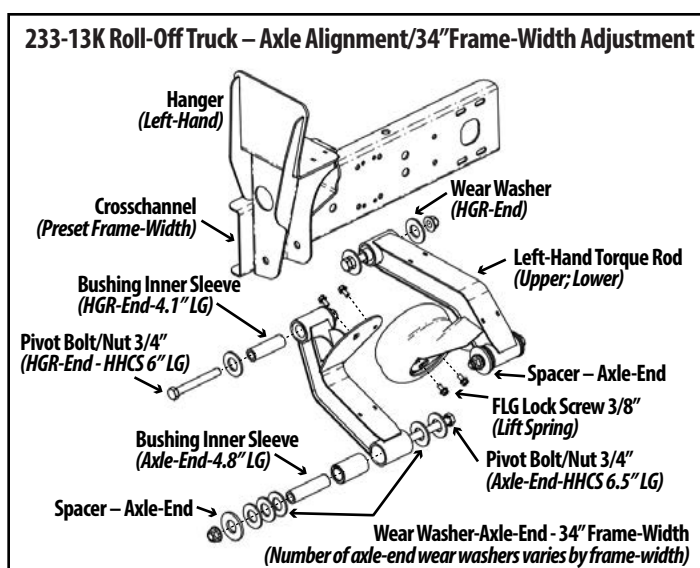

Figure 15.
1. Locate and count the Spacer Washer and the number of Wear Washers installed on the Axle-End side of both the Left- and Right-Hand torque rods. The number of wear washers varies according to the preset frame width (Figure 15).